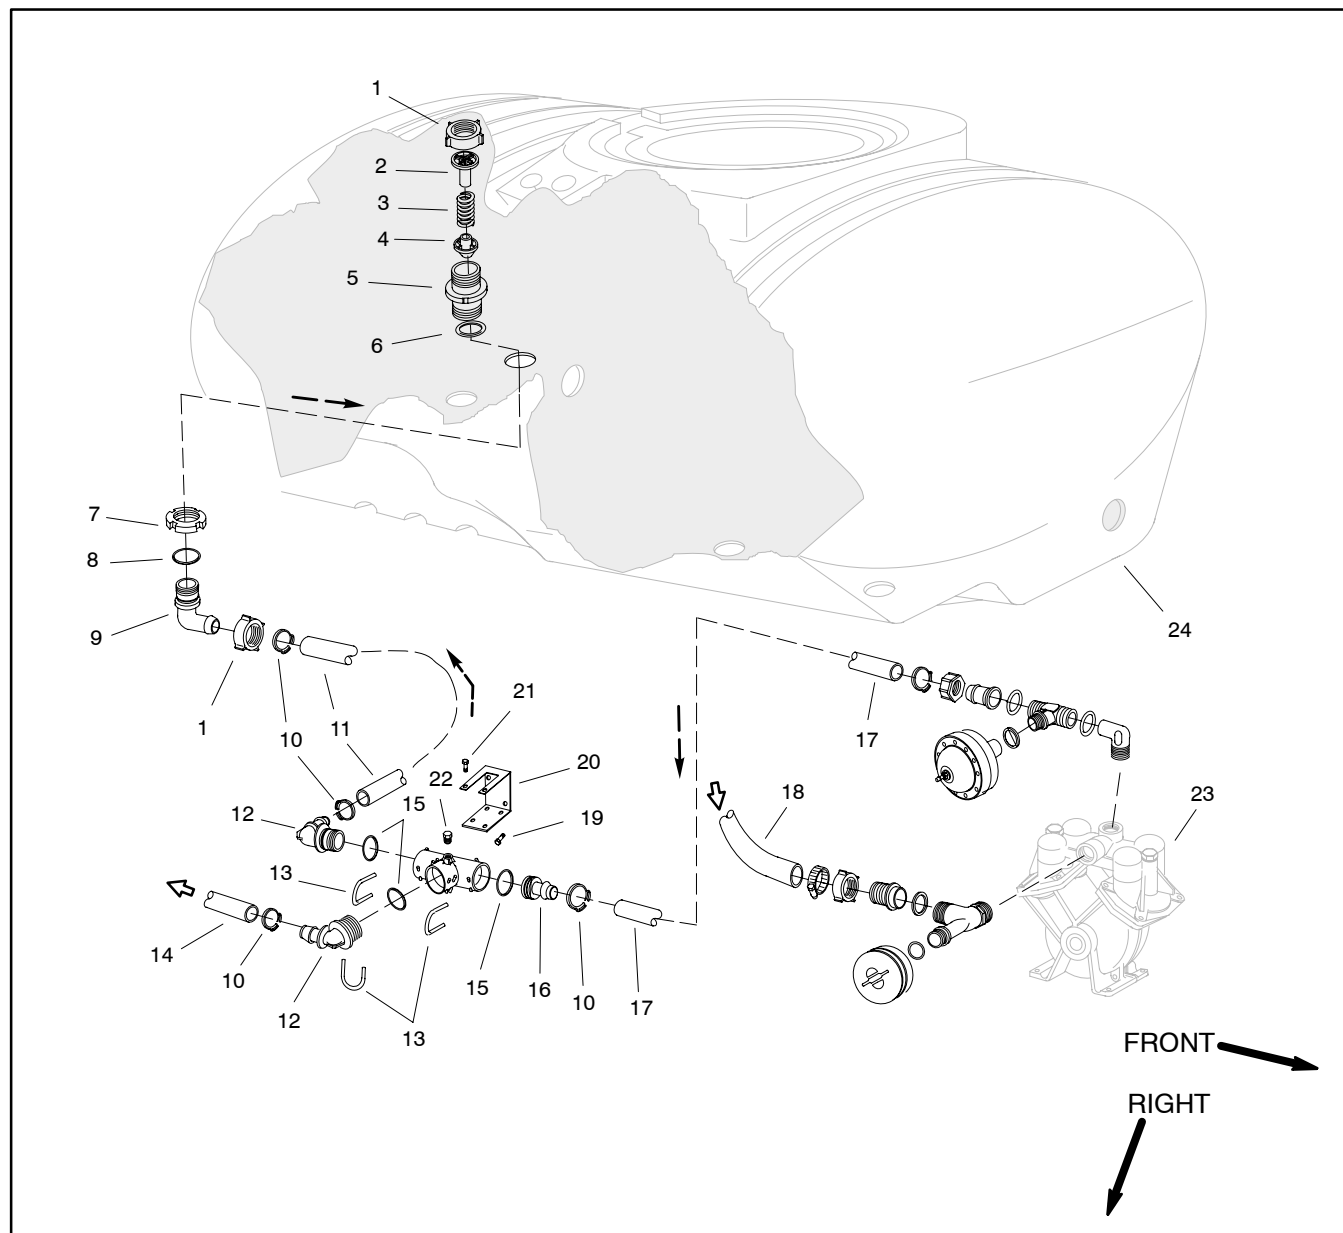

Figure 18
Removal (Fig. 18)
4. Remove pressure relief valve from spray tank using Figure 18 and 19 as guides. Discard all removed o-rings and gaskets.
Assembly (Fig. 18)
1. Install pressure relief valve using Figure 18 and 19 as guides. Replace all removed o-rings and gaskets.